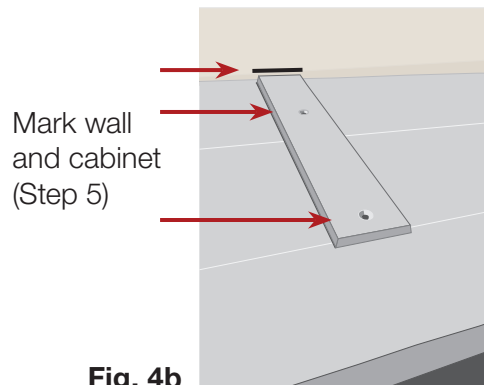

Fig. 4b
- Position the L brackets at wall studs (if possible) and mark the locations of the brackets on the wall*. Also mark the drill hole locations through the L Bracket on crossmember (Fig. 4b), see note* below for high ceiling clearance installations.